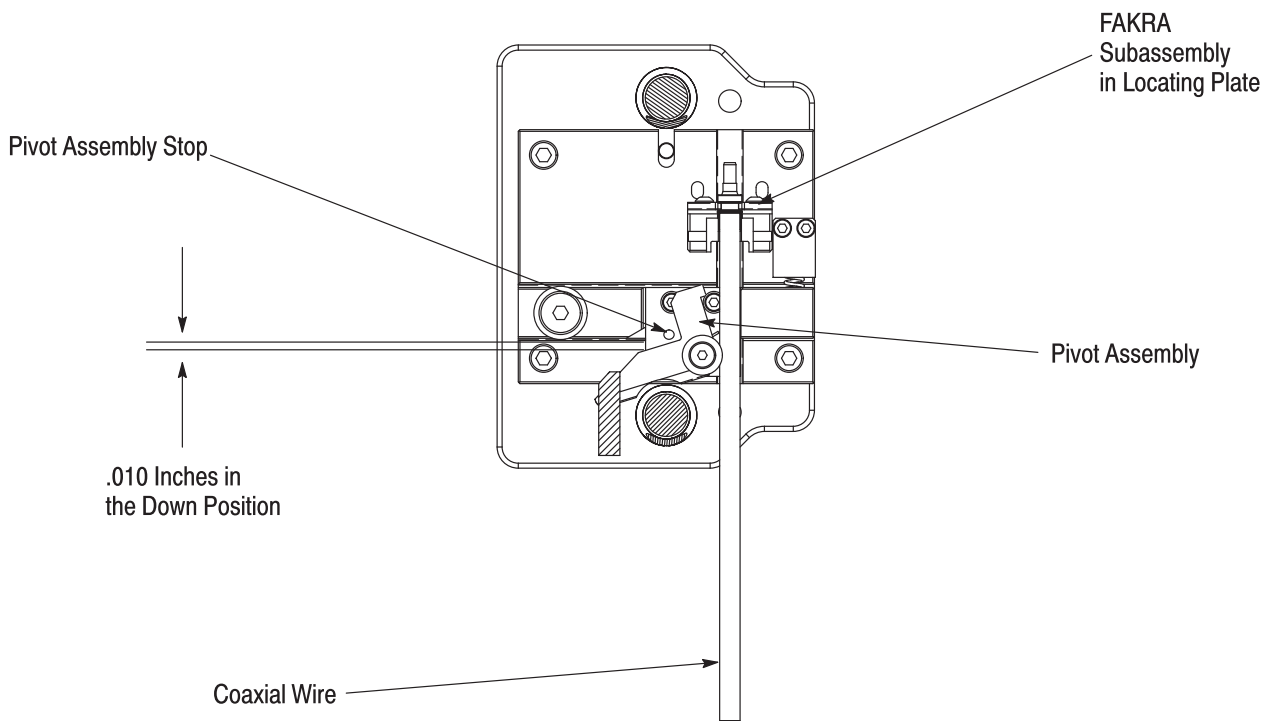
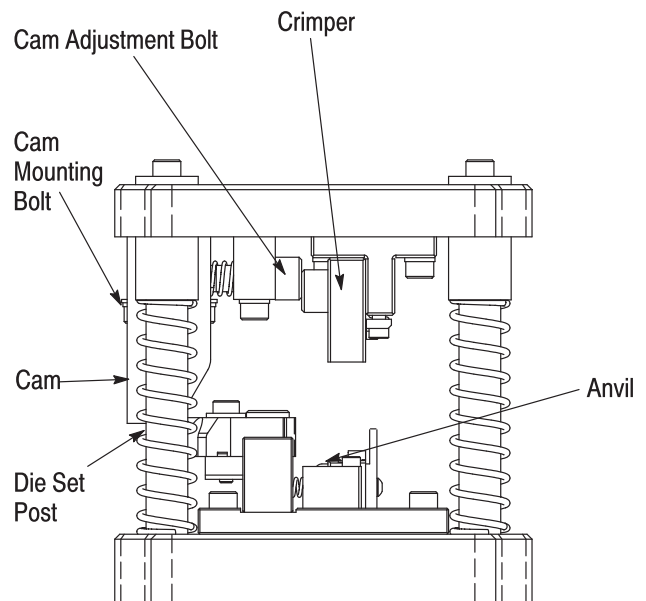

Figure 6
Figure 7
- b. Using the locating plate, place the plug or jack connector in the proper position. See Figure 6.
- b. Adjust the cam. The cam should be adjusted to pivot the clamp assembly without binding. Loosen the cam mounting bolts and move the adjustment bolt until the cam positions the pivot assembly approximately .010 inches from the stop. Refer to Figure 6 and Figure 7.
The die set post (Figure 7) should be coated with light oil before every usage to help prevent binding and wear.